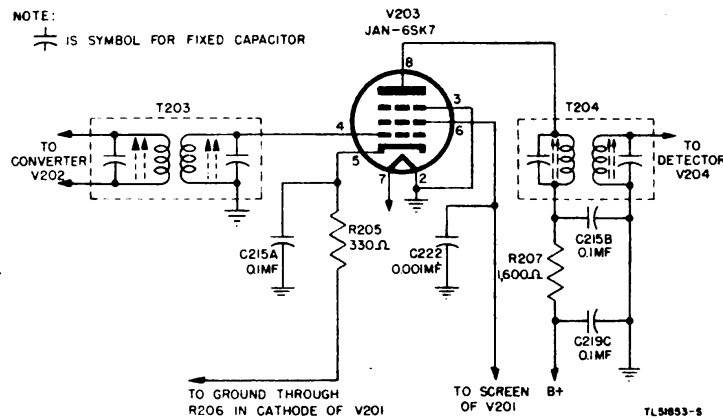

Figure 26. I-f amplifier V203, simplified diagram.
61. INTERMEDIATE-FREQUENCY AMPLIFIER (fig. 26).